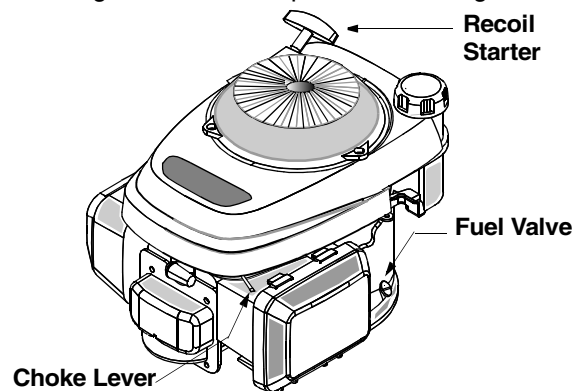

Figure 11
- Make sure the fuel valve lever found on the left side of the engine is in the ON position. See Figure 11.